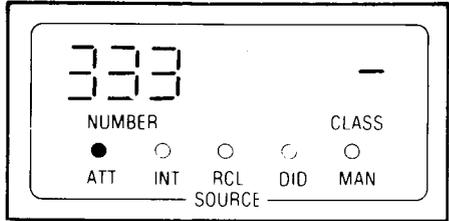

Fig. 356-1
- SOURCE display shows number of check extension 1 and “.” (no forward code) (See Fig. 356-1), ATT lamp lit